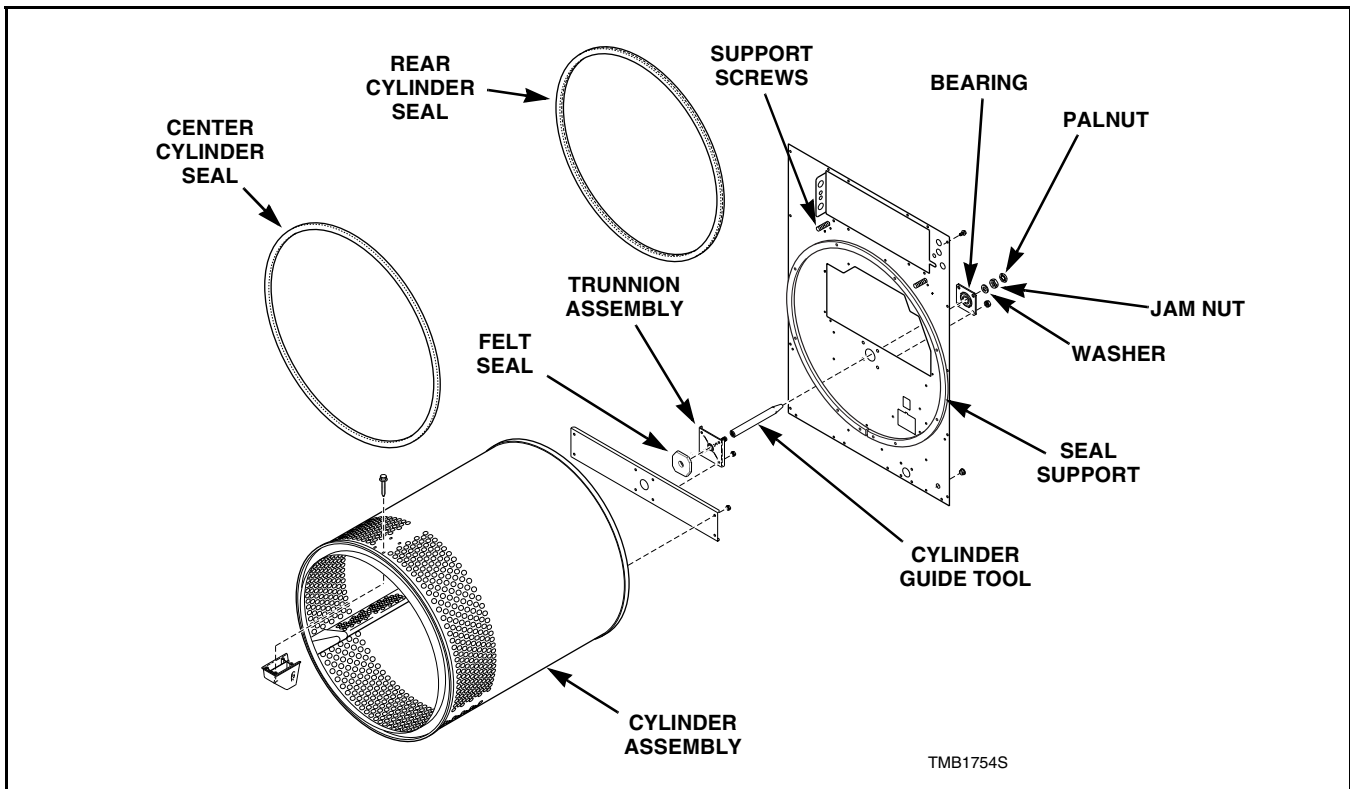

Figure 20
- g. Install cylinder guide tool on cylinder shaft before reinstalling cylinder. Refer to *Figure 20*.
Refer to *Figure 20*.